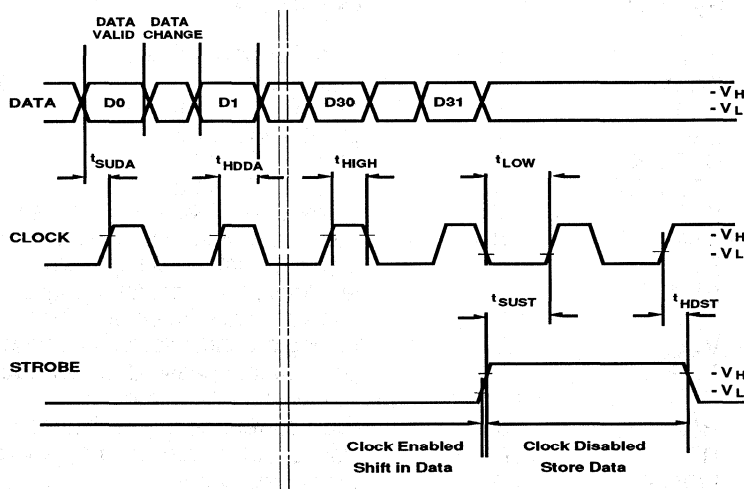
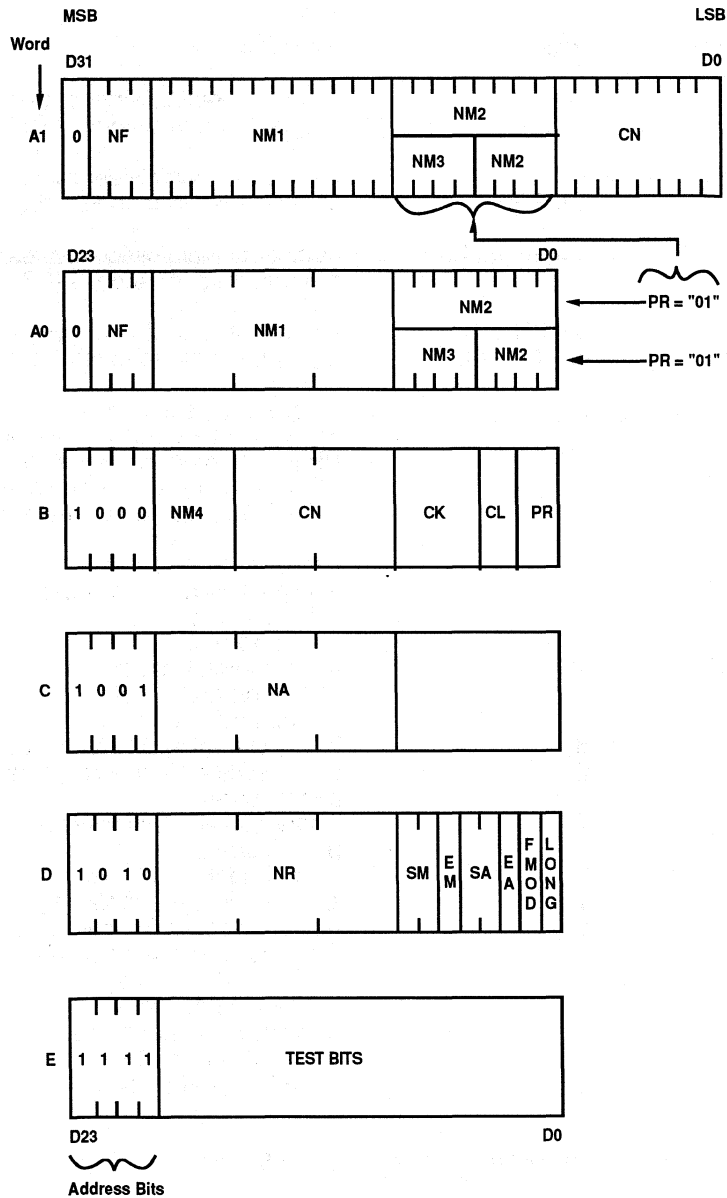

Fig. 3 Serial Input timing sequence
Fig. 4 Serial input word format
2. Co-channel selectivity, Fig.4(b) ($f_2 = f_1 \pm$ up to 3 kHz)
3. Spurious immunity, Fig.4(b) ($f_2 = 100\text{ kHz to } 2\text{ GHz}$)
4. Intermodulation immunity, Fig.4(c) ($f_2 = f_1 \pm \Delta f_{CS}$; $f_3 = f_1 \pm 2 \cdot \alpha f_{CS}$)
5. Blocking, Fig.4(b) ($f_2 = f_1 \pm 1\text{MHz}$)
6. Frequency offset range, Fig.4(a) (deviation = $\pm 4.0\text{ kHz}$; $f_1 = 469.950\text{ MHz } \pm 2\text{ kHz}$; $f_{\text{offset min}}$)
7. Deviation range, Fig.4(a) (deviation = ± 2.5 to $\pm 7\text{ kHz}$; $\Delta f_{\text{dev min}}$ to $\Delta f_{\text{dev max}}$)
8. Receiver turn-on time, Fig.4(a)
The serial input is a 3 wire input (CLOCK, STROBE, DATA) to program all counter ratios, DAC's, selection and enable bits. The programming data is structured into 24 or 32 bit words; each word includes 1 or 4 address bits. Figure 3 shows the timing diagram of the serial input. When the STROBE = L, the clock driver is enabled and on the positive edges of the CLOCK the signal on DATA input is clocked into a shift register. When the STROBE = H, the clock is disabled and the data in the shift register remains stable. Depending on the 1 or 4 address bits the data is latched into different working registers or temporary registers. In order to fully program the synthesizer, 4 words must be sent: D, C, B and A. Figure 4 shows the format and the contents of each word. The E word is for testing purposes only. The E (test) word is reset when programming the D word. The data for NM4, CN, and PR is stored by the B word in temporary registers. When the A word is loaded, the data of these temporary registers is loaded together with the A word into the work registers which avoids false temporary main divider input. CN is only loaded from the temporary registers when a short 24 bit A0 word is used. CN will be directly loaded by programming a long 32 bit A1 word. The flag LONG in the D word determines whether A0 (LONG = "0") or A1 (LONG = "1") format is applicable. The A word contains new data for the main divider. The A word is loaded only when a main divider synchronization signal is also active, to avoid phase jumps when reprogramming the main divider. The synchronisation signal is generated by the main divider. It disables the loading of the A word each main divider cycle during maximum 300 main divider input cycles. To be sure that the A word will be correctly loaded the STROBE signal must be H for at least 300 main divider input cycles. Programming the A word means also that the main charge pumps on output PHP and PHI are set into the speed-up mode as long as the STROBE is H.